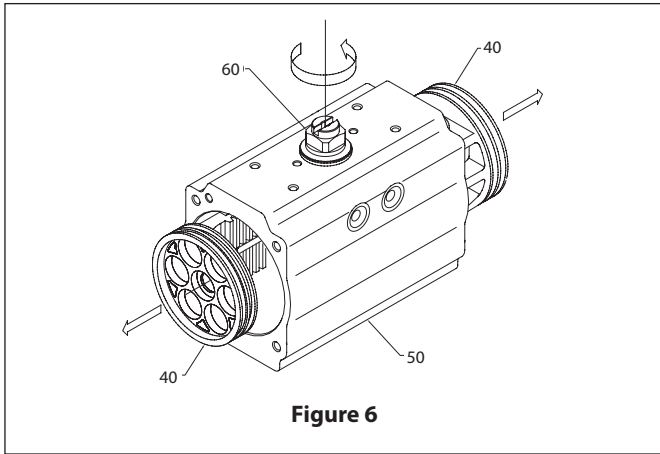

Figure 6
C. Remove end-cap o-rings (14) and discard if replacing all soft parts.
4. Piston (40) Disassembly, (Figure 6):
A. Holding the body (50) in a vice (or similar device), rotate the drive shaft (60) until the pistons (40) are released. **CAUTION: Do not use air pressure to remove pistons from actuator housing.** Clean and inspect the piston teeth for signs of wear. Replace piston if wear seems excessive.
B. Remove piston o-ring seal (16) using a screwdriver. Remove the piston head (15) and piston back (5) bearings. Discard bearings if replacing all soft parts.